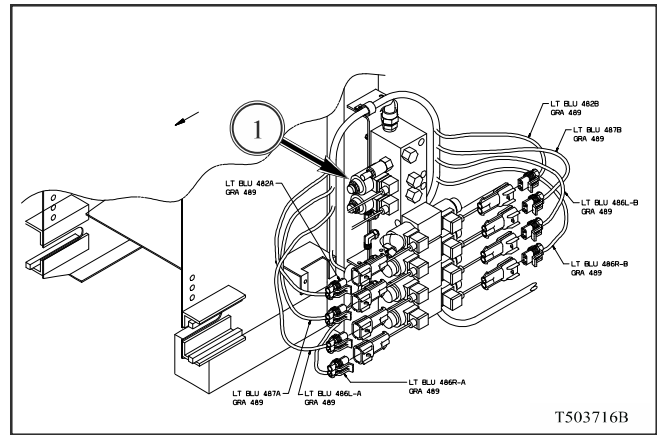

FIG. 17
FIG. 17: The Pulse Width Modulated (PWM) valve (1), located near the top of the hydraulic valve, controls the oil flow to the conveyor hydraulic motor. The coil on the valve has 12-volt power that comes from the rate controller through pin 40 of the rectangular 40-pin connector on a red/white 604 wire. The rate controller sends a pulsing ground signal to the coil to open the valve. The faster the ground signal is sent to the coil, the more it holds the valve open and allows more oil to go to the conveyor motor. The ground signal to the PWM coil comes on a blue 420P-1 from pin 10 of the 40-pin bulkhead connector.